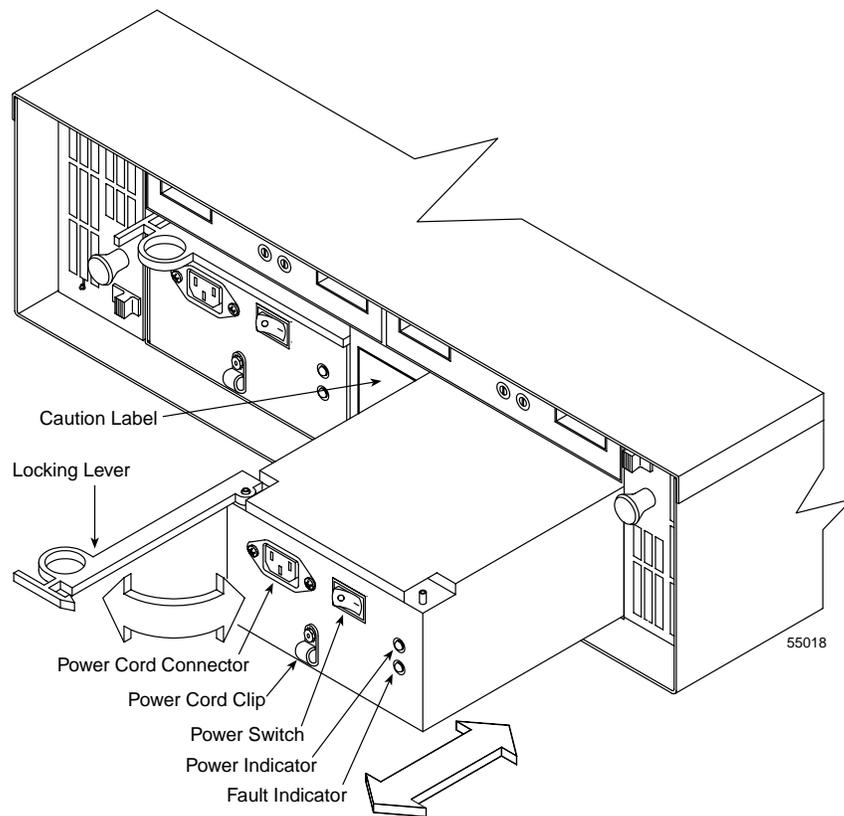

Figure 7-4 Removing and Installing a Power Supply Canister
4. Read the yellow "Caution" label on the rear of the drive enclosure between the power supply canisters (Figure 7-4).
8. Wearing antistatic protection, grasp the pull-ring on the locking lever and squeeze it to unlatch the lever (Figure 7-4).
16. Check that the Power indicator on the new canister is on and the Fault indicator is off (Figure 7-4).